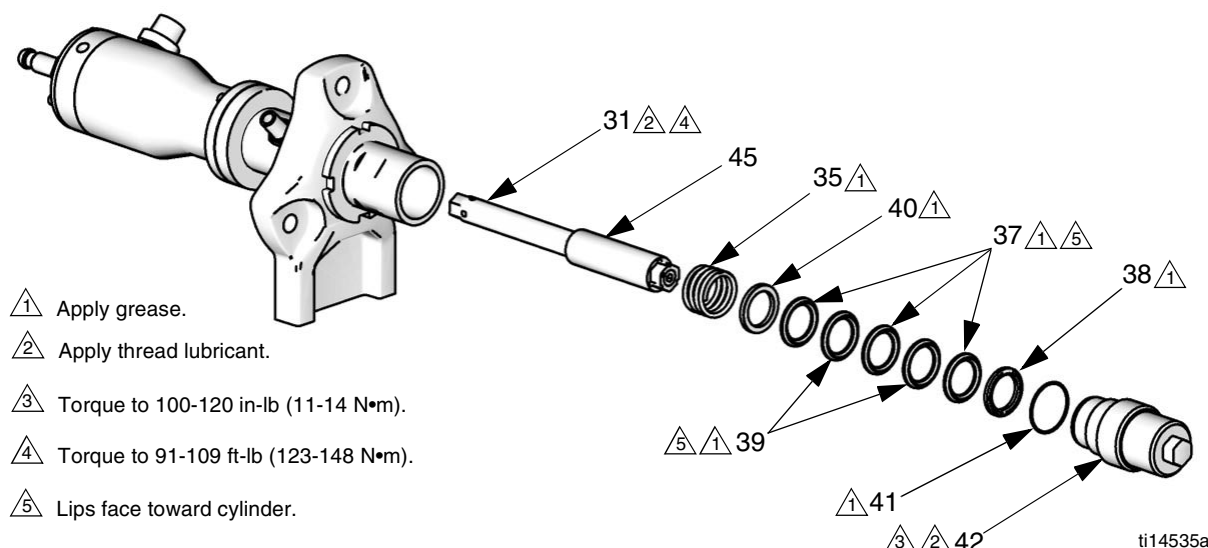

FIG. 14. Piston v-packings
5. Pull the piston/rod assembly out of the bottom of the cylinder (27).
6. **V-Packing Models:** Remove the piston packings (37, 39), glands (38, 40), and spring (35). See FIG. 14, page 14.